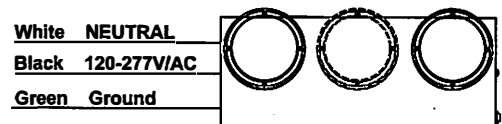

Fig 3
4. Make proper electrical connection, refer to wiring diagram (see Fig 3).